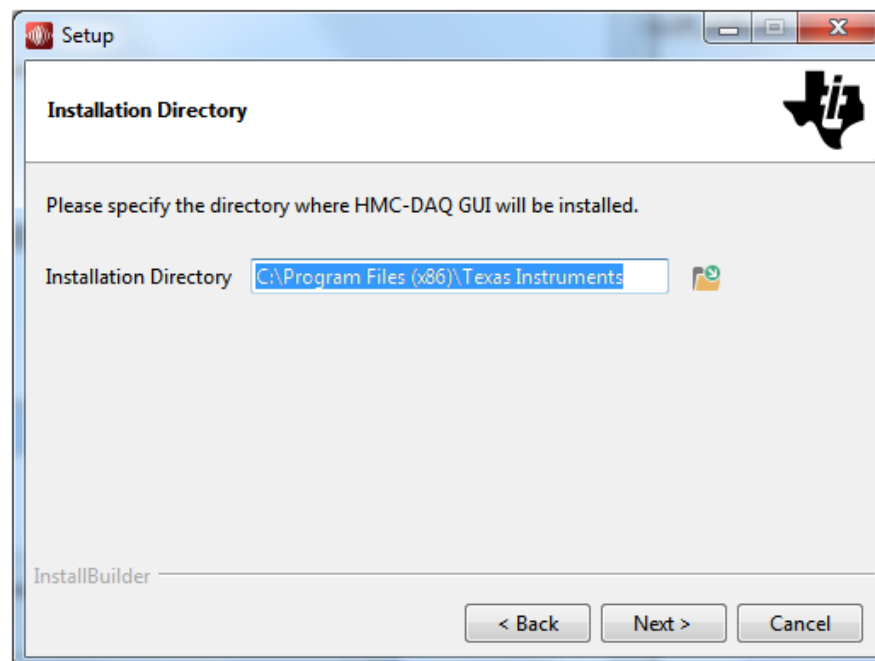

Figure 37. HMC-DAQ GUI Install (Install Directory)
4. Allow the software to be installed in the default location by pressing the Next button, as in Figure 37.